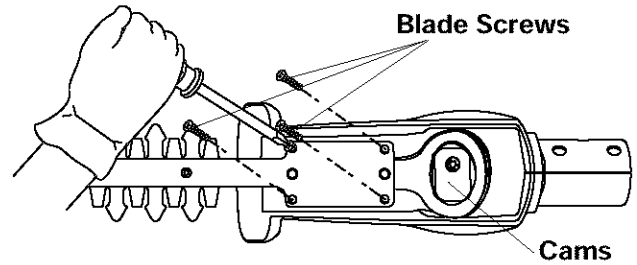

Fig. 9
3. Align the cams (Fig. 9).
4. Remove the four (4) blade screws (Fig. 9).
- Align the cams (see Fig. 9).